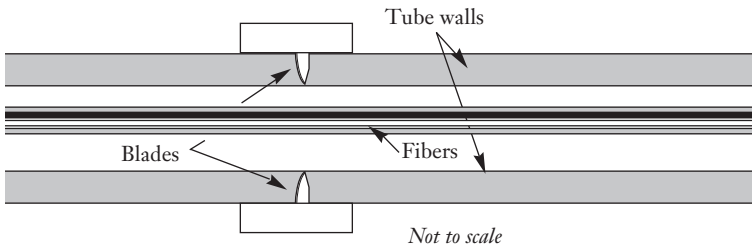

Figure 11
7.2 It is recommended to adjust the blades to maximize the score depth without penetrating the tube (Figure 11). ***This step is critical to protect the fibers inside the tube.***